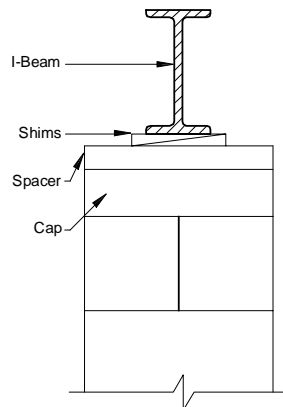

Figure 22. Correct shim placement
4. **Install shims.** Use shims to level the home and fill any gaps between the base of the I-beam and the top of the pier cap. Always use shims in pairs (Figure 22). Drive them in tightly so they do not occupy more than one inch of vertical space. When the space to be shimmed is greater than one inch and less than the minimum thickness of available caps or concrete blocks, use hardwood dimensional lumber (two inches maximum thickness) or 2" or 4" thick concrete block. For split caps, install shims and dimensional lumber/blocks over each individual cap.